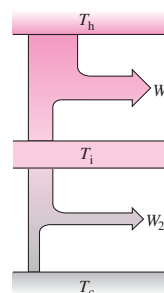

FIGURE 19.21 Problem 32
32. Consider a Carnot engine operating between temperatures T_h and T_i , where T_i is intermediate between T_h and the ambient temperature T_c (Fig. 19.21). It should be possible to operate a second engine between T_i and T_c . Show that the maximum overall